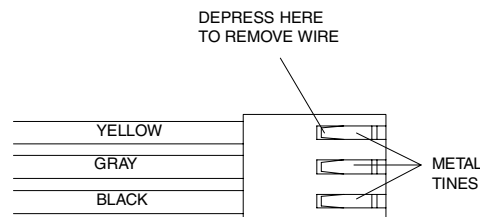

Figure 9: Motor connector
2. Locate the three leads (yellow, gray, and black) that form the connection from the motor to the circuit board. Looking at the connector, observe the three small metal tines, one for each wire. Depressing the high point of the tine with a ball point pen or something similar will allow the wire to be extracted from the connector. See **Figure 9**. Reverse the positions of the yellow and gray wires, making sure the wires are pushed back in far enough to fully engage the tines.